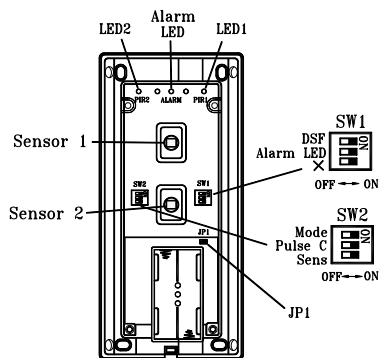

Fig. 7
There are two DIP switches and a jumper JP1 on the PC board, each switch has 3 positions. Refer to Fig. 7. Setting description as follows,
3. If necessary you can check the detection status of the two sensors by setting jumper JP1 at “ON” position and SW2 position 1 to ON, refer to Fig 7. Under this condition, the LED1 for sensor 1 and the LED2 for sensor 2 would react independently, and then you can adjust the mounting height to fulfill your detection coverage if needed. Note that only when the two sensors detect motion simultaneously, the PIR triggers alarm.
The i4H-PIR-OD1 is equipped with a selectable pulse counter to adapt different environment. It can be selected by placing the jumper on the desired setting. Refer to the SW2 of Fig. 7 and above paragraph "ABOUT SETTING ON PCB".
To prevent the PIR from being discovered easily by the intruder, LED can be disabled by putting SW1 position 2 at OFF position, see Fig. 7. However the LED would be enabled automatically when the PIR is in "TEST" mode.